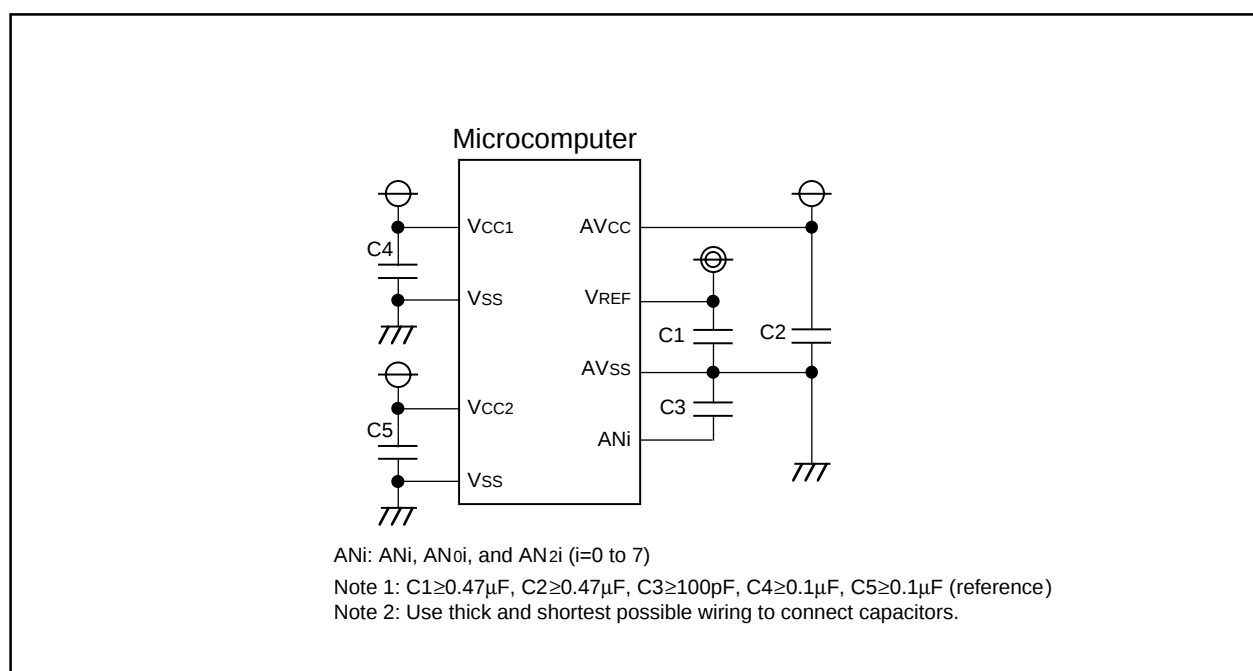

Figure 1.7.1. Use of capacitors to reduce noise
3. To prevent noise-induced device malfunction or latchup, as well as to reduce conversion errors, insert capacitors between the AVCC, VREF, and analog input pins (ANi) each and the AVss pin. Similarly, insert a capacitor between the VCC pin and the Vss pin. Figure 1.7.1 is an example connection of each pin.